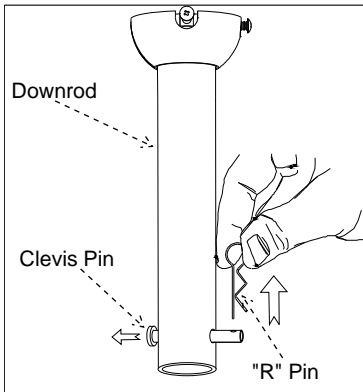

Fig. 3
Step 2. As shown in Fig. 3, remove the clevis pin & 'R' pin from the downrod (B).